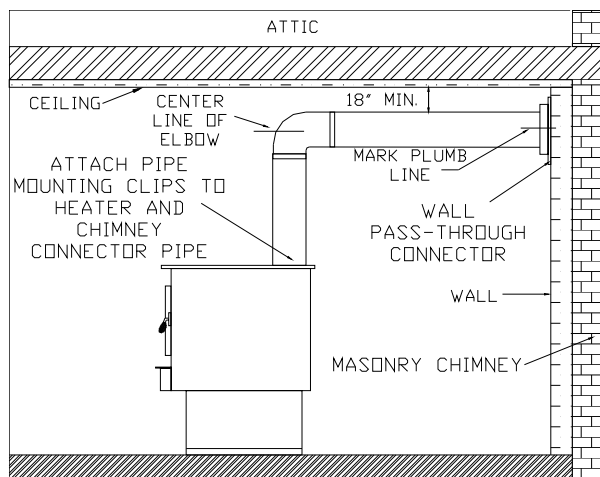

Figure 8
1. Before connecting this unit to a masonry chimney, determine that masonry fireplace wall pass-through connector thimble meets **NFPA-211** Code and local building codes and is a minimum of 18" from ceiling. If connector thimble does not meet these codes, the pass-through connector must be modified. (See Figure 8).